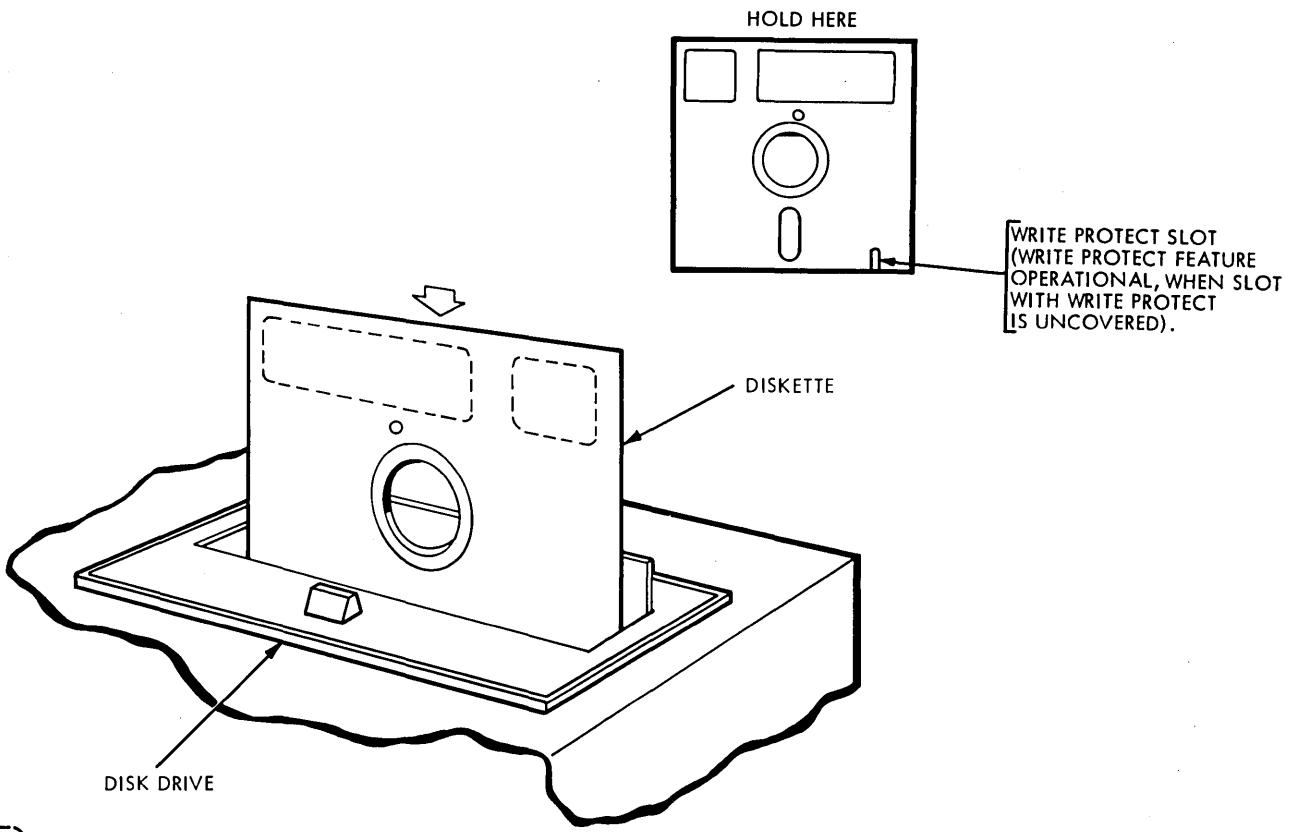

Figure 2-1. Diskette Installation
- c. Remove diskette from storage envelope as shown in Figure 2-1.
- d. On units with the Write-Protect option, be sure the Write-Protect slot in the jacket is open, as shown in Figure 2-1, if the diskette is to be write-protected.
- f. Carefully slide diskette into FDD, as shown in Figure 2-1, until jacket is solidly against stops.